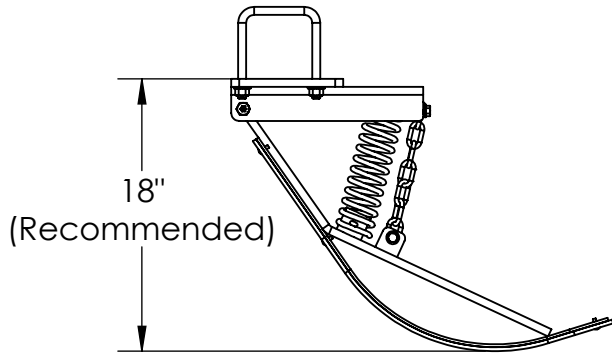

Figure 1
-At assembly, set chain tension to allow for 18" operating position as shown below in Figure 1.